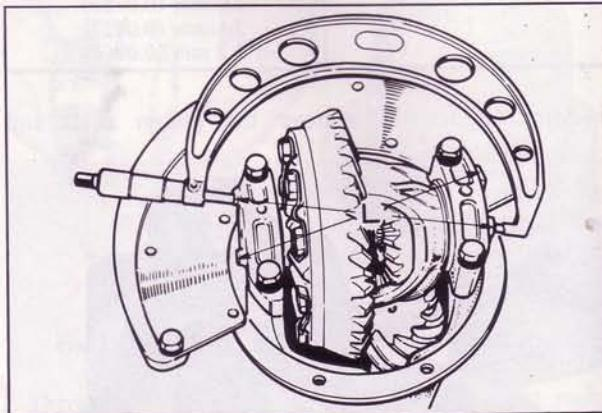

Fig. 9-25 Adjusting bearing preload (case spread)
3. The preload on the differential bearings is obtained by tightening the adjusters. Tighten the adjusters until the distance between both pilot sections on the bearing caps becomes **204.428 ~ 204.5 mm (8.0485 ~ 8.0513 in)**, as shown in Fig. 9-25.